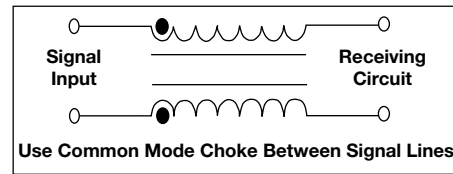

Fig. 11
- Use common mode chokes (Vishay Dale series LPT4545 or LPT3535 or the LPE series of surface mount transformers) between current carrying and signal lines to increase coupling and cancel stray fields. (Fig. 11)